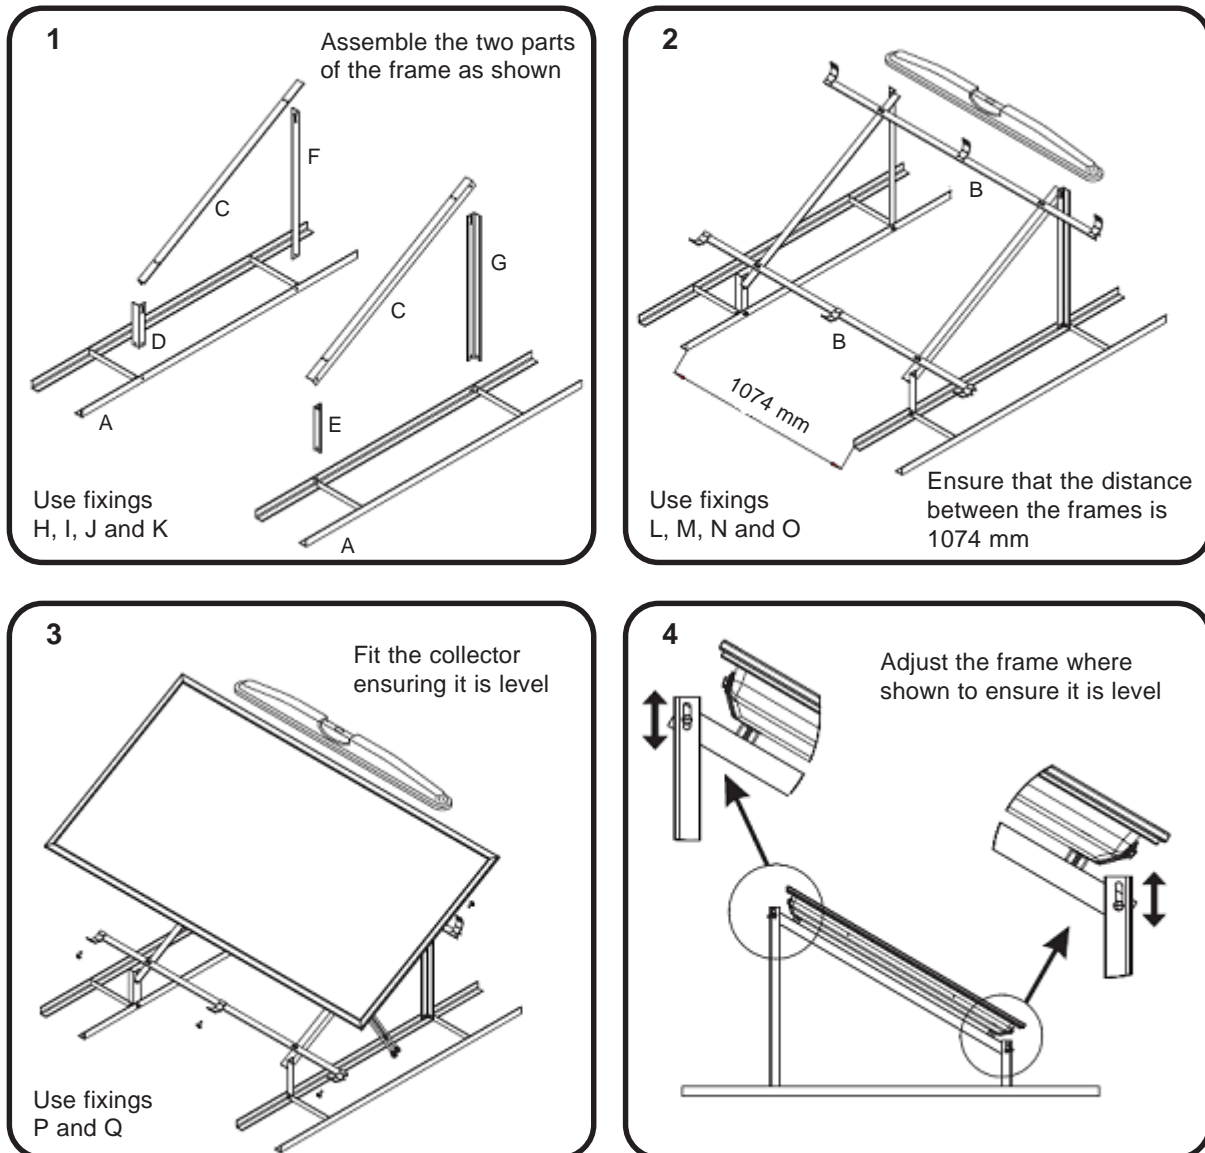

Fig. 2
- The collector must always be level. The frame offers some adjustment by the slotted holes in the vertical supports, see frame 4 in Fig. 2.